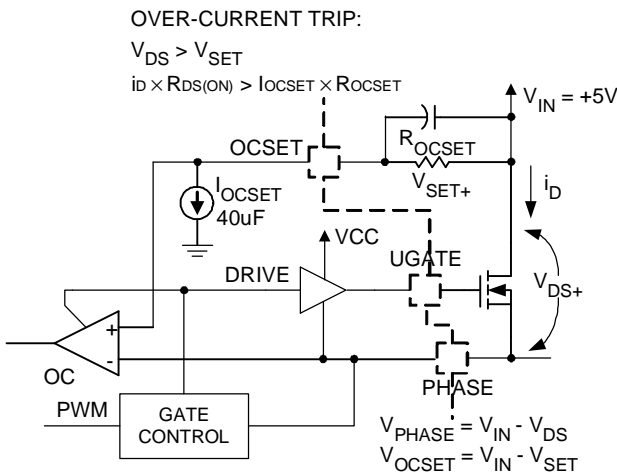

Figure 3
The over current protection (OCP) function of the RT9202 is triggered when the voltage across the $R_{DS(ON)}$ of upper side MOSFET that developed by drain current exceeds over-current tripping level. An external resistor (R_{OCSET}) programs the over-current tripping level of the PWM converter. As shown on Figure 3 the internal $40\mu A$ current sink (I_{OCSET}) develops a voltage across R_{OCSET} (V_{SET}) that is referenced to V_{IN} . The DRIVE signal enables the over-current comparator (OC). When the voltage across the upper MOSFET ($V_{DS(ON)}$) exceeds V_{SET} , the over-current comparator trips to set the over-current latch.